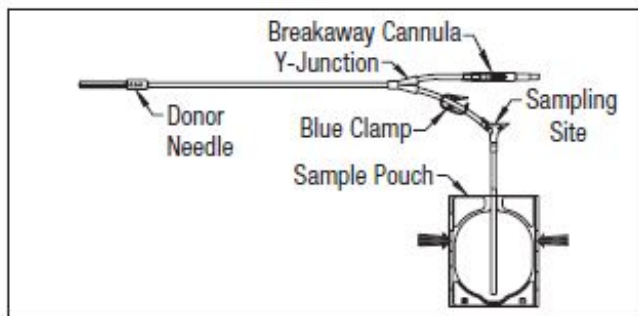

Figure 1
- **Do not use the product if the in-line cannula is broken and/or anticoagulant is present in the sample pouch or in the tubing from the in-line cannula to the sample pouch and donor needle (see Figure 1). Note that condensation in the empty tubing of the Blood-Pack Unit is expected as a result of the sterilization process.**
- **If less blood sample volume is required, the flow to the sample pouch may be stopped prior to completely filling the pouch. For example, in order to target a fill volume of approximately 40 mL, fill to the level indicated by the arrows in Figure 1. Ensure the pouch is hanging vertically.**